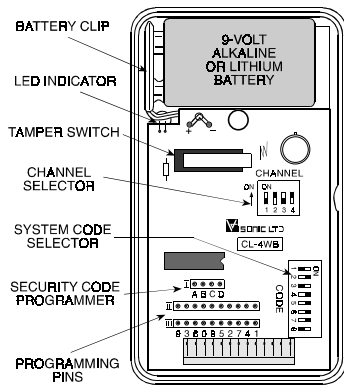

Figure 1 - Components Layout
The **CL-4WB** has an 8-position DIP switch, marked CODE, as shown in Figures 1 and 2. Each switch (1 through 8) may be set to ON or OFF, to create a unique digital system code that differs from that used by other wireless systems that may be operating in the vicinity.
The channel selector consists of a 4-position DIP switch, marked CHANNEL, as shown in Figures 1 and 3. The channel code transmitted by the **CL-4WB** is selected by switching the corresponding channel key (1, 2, 3 or 4) to ON.